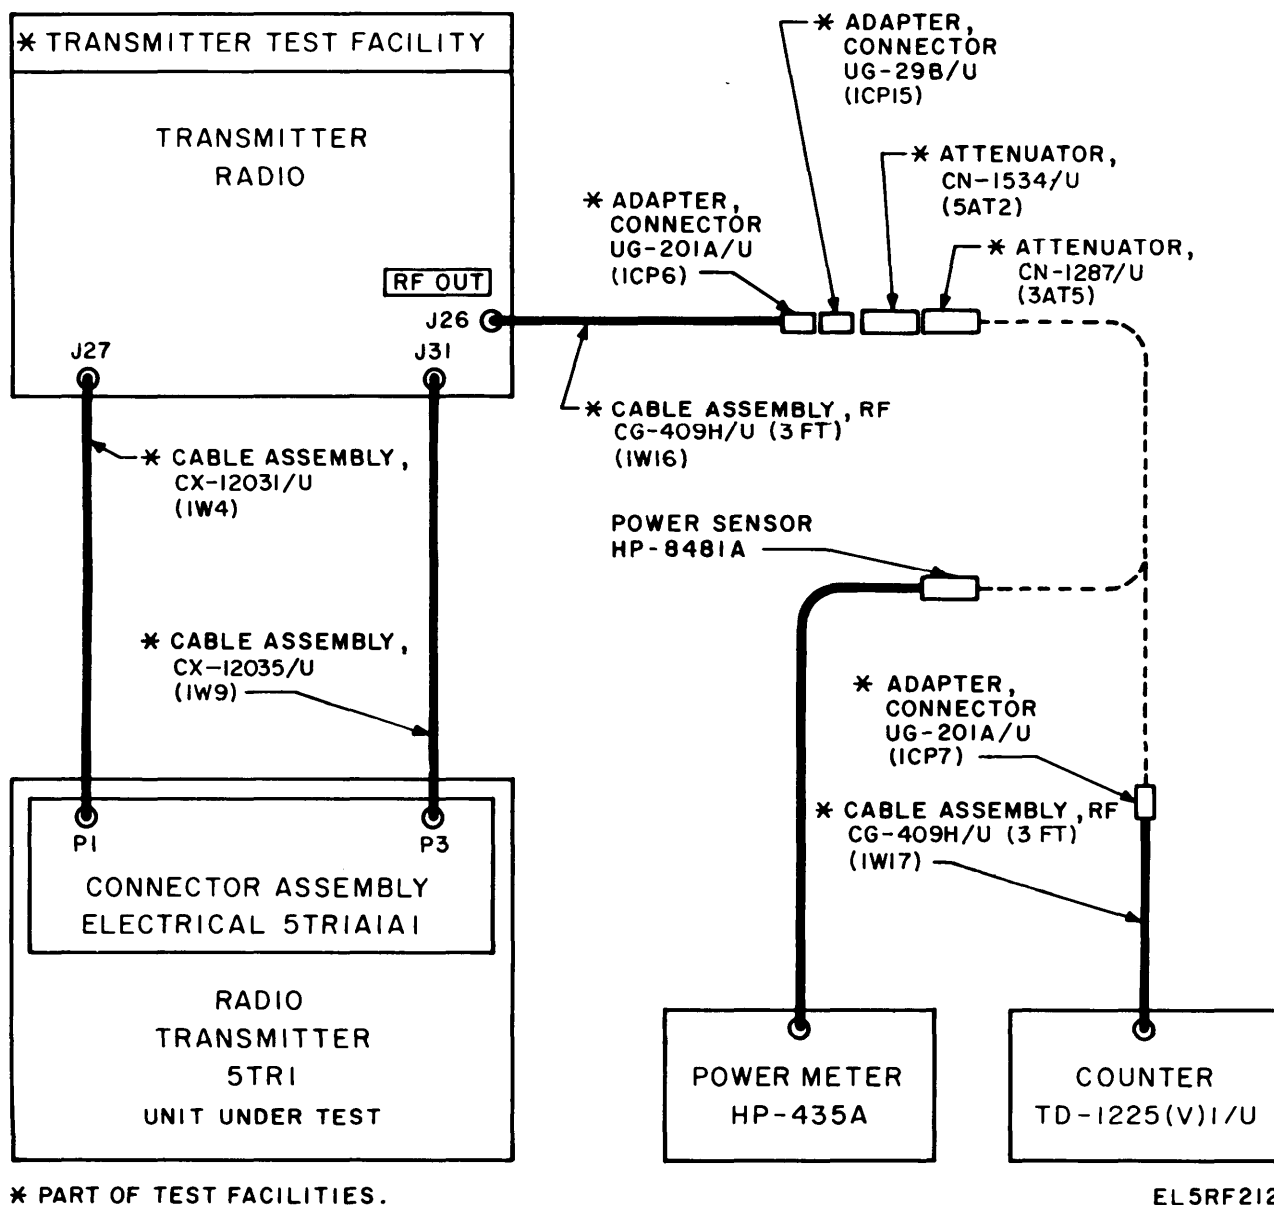

Figure 3-74. Transmitter Fixed Head Power Output and Frequency Check, Test Setup.
*Set the signal generator to 153.333 MHz using procedure described in (2)(d) and (e) above and repeat steps (3)(a) through (c).
(4) Power output and frequency check.
(a) Readjust signal generator as in (2) (d) and (e) above. Connect the test equipment as shown in figure 3-74.